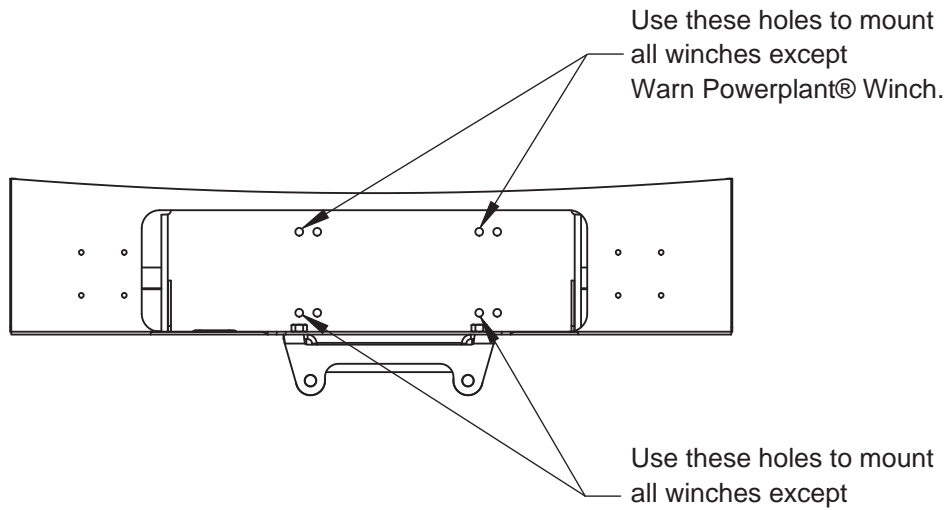

Figure 2a
6. Prepare winch and vehicle for installation as specified in winch installation instructions. Align holes in bumper as shown below (Figure 2a) with winch mounting holes (Figure 2b). It may be helpful to thread winch cable through fairlead before bolting it in place.